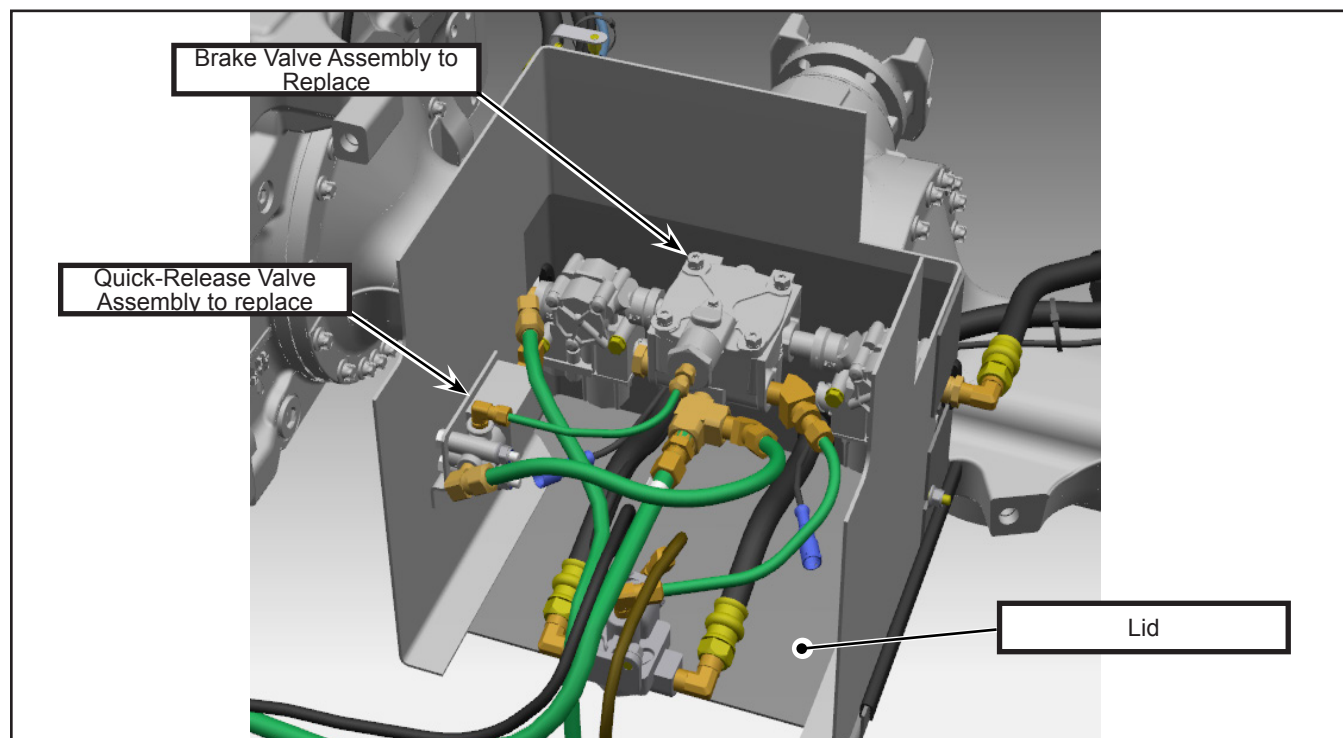

Figure 6 - Original Valves Configuration (Top View, Floor and Other Parts Removed for Clarity)
- 1.4. Remove the lid from the brake valves assembly box. See Figure 6.